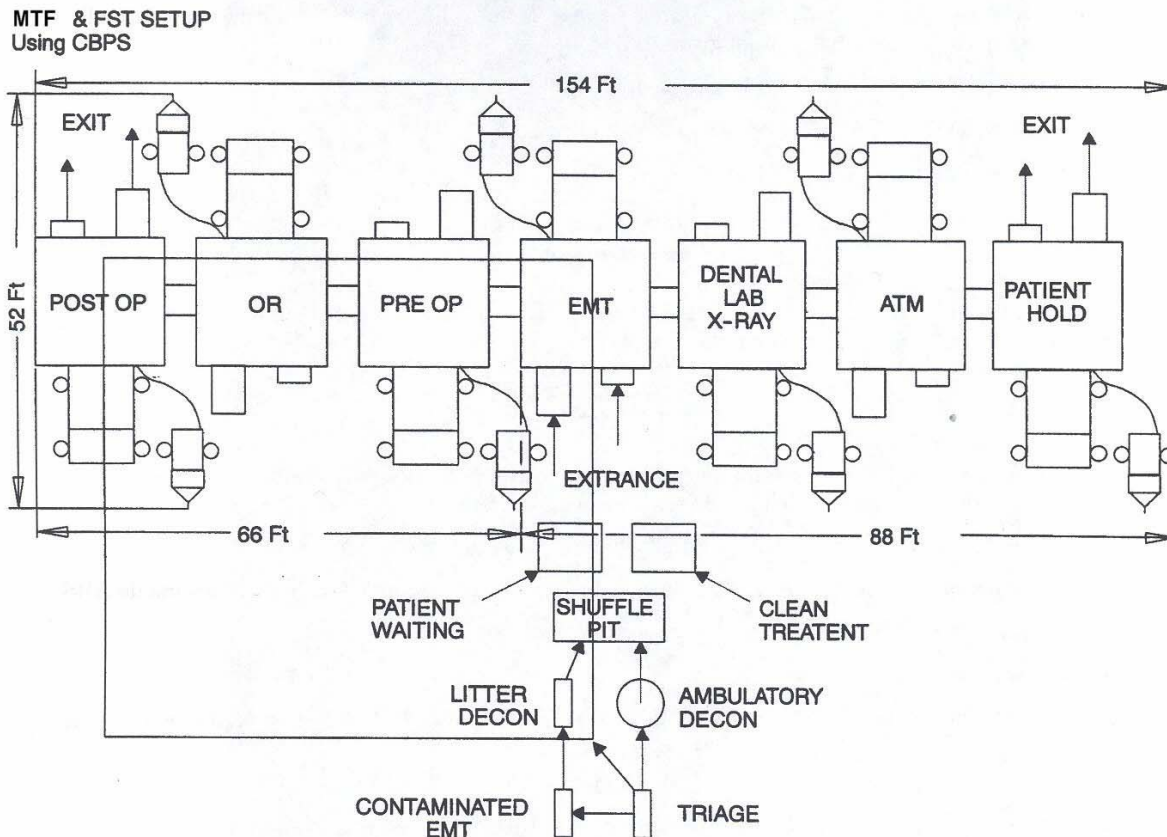

Figure 2-24. MTF & FST Setup
- (1) Select sight on level, dry ground in clear area approximately 66 feet by 52 feet with a minimum of 15 feet of overhead clearance (figure 2-24).
- (1) Select sight on level, dry ground in clear area approximately 88 feet by 52 feet with a minimum of 15 feet of overhead clearance (figure 2-24).
- (1) Select sight on level, dry ground in clear area approximately 154 feet by 52 feet with a minimum of 15 feet of overhead clearance (figure 2-24).